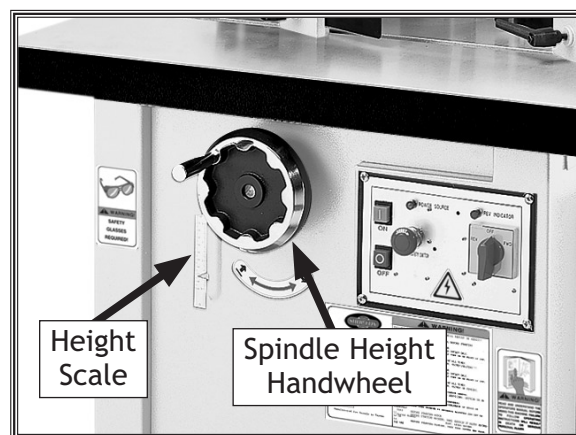

Figure 22. Spindle height scale and handwheel.
3. Rotate the spindle height handwheel to bring the cutter to the required height, then re-tighten the lock (see **Figure 22**).